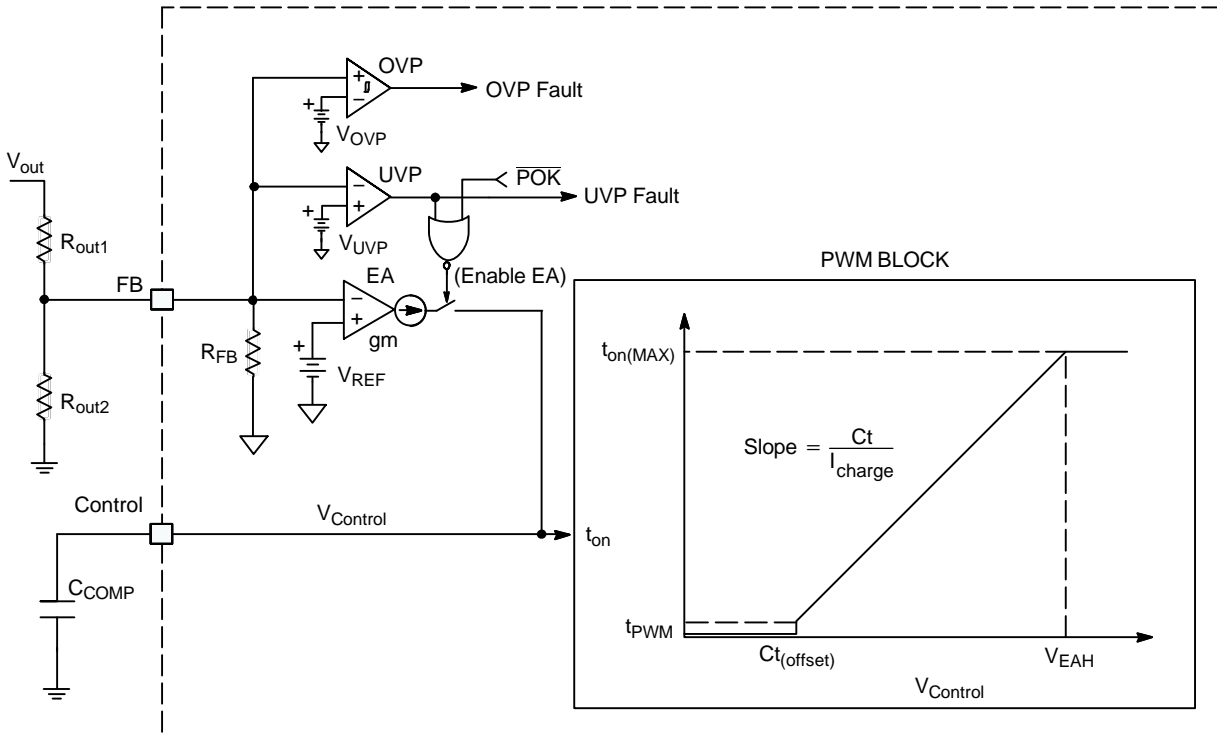

Figure 29. Error Amplifier and On Time Regulation Circuits
The NCP1608 regulates the boost output voltage using an internal error amplifier (EA). The negative terminal of the EA is pinned out to FB, the positive terminal is connected to a  $2.5 \text{ V} \pm 1.6\%$  reference ( $V_{\text{REF}}$ ), and the EA output is pinned out to Control (Figure 29).